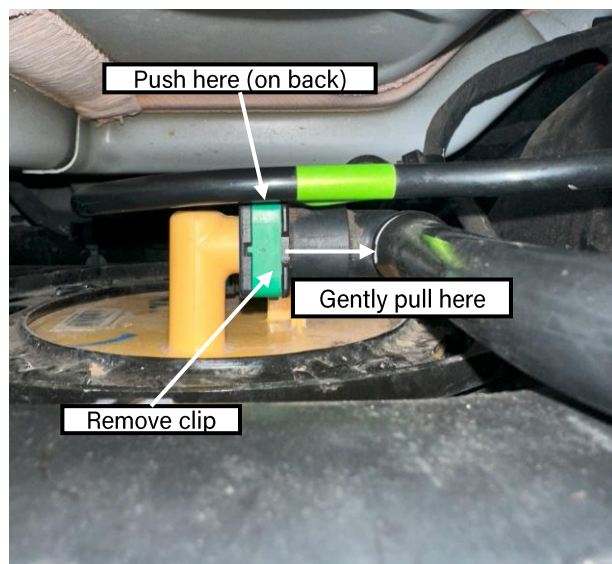

Figure 20: Evap canister hose clip
- ❑ Remove the evap canister hose by removing the green plastic clip, pressing in on the back of the spring clip, and gently pulling the line out (same as rear fuel connection clips) as seen in Figure 20